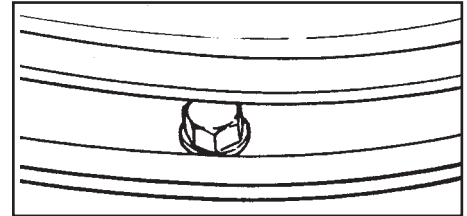

Figure 5
5. Place a nut or similar object between the flange and the lip of the bead seat band. (See Fig. 5.)